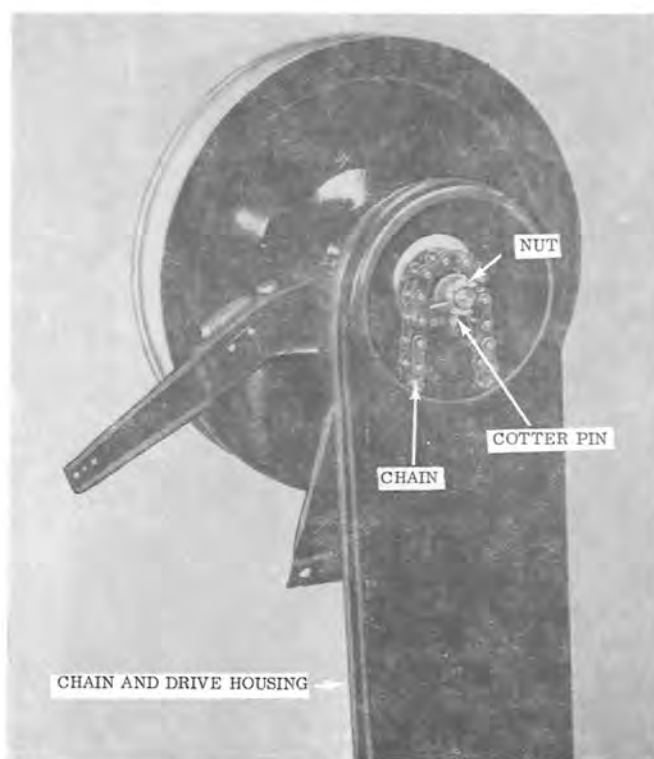

Figure 16
3. Remove cotter pin and nut (See Figure 16).